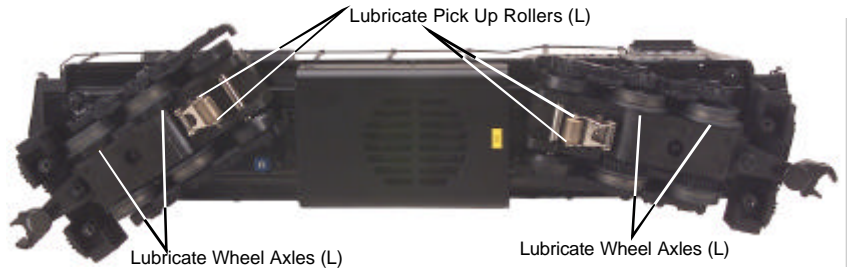
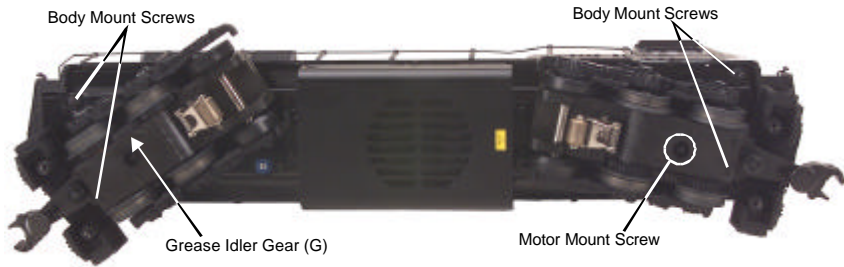

Figure 2. Lubrication Points on the Engine
Figure 3. Greasing Points on the Engine and Locations of Body Mounting Screws
Although the engine was lubricated at the factory, it is important that you lubricate the chassis before operation. Lightly grease the outside idler and drive gears (marked “G” in Fig. 3 on pg. 9) to prevent them from squeaking. Use light household oil and follow the lubrication points marked “L” in Fig. 2 on pg. 8. Do not over-oil. Use only a drop or two on each pivot point.
You should regularly lubricate all outside idler gears and pickup rollers to prevent them from squeaking. Use light household oil and follow the lubrication points marked “L” in Fig. 2. Do not over oil. Use only a drop or two on each pivot point.
1. Remove the Phillips screws from the chassis, as seen in Figure 3, then lift the body away from the chassis. Use caution when removing the body to make sure the handrails clear the cab housing so that the paint is not damaged.
2. Remove the truck blocks from the chassis by unscrewing the black Phillips motor mount screw (labeled motor mount screw in Figure 3) on the bottom of each truck block.
It is also a good idea to lubricate the outside truck block idler and drive gears with grease occasionally. Add grease to the points marked with “G” in Figure 3.